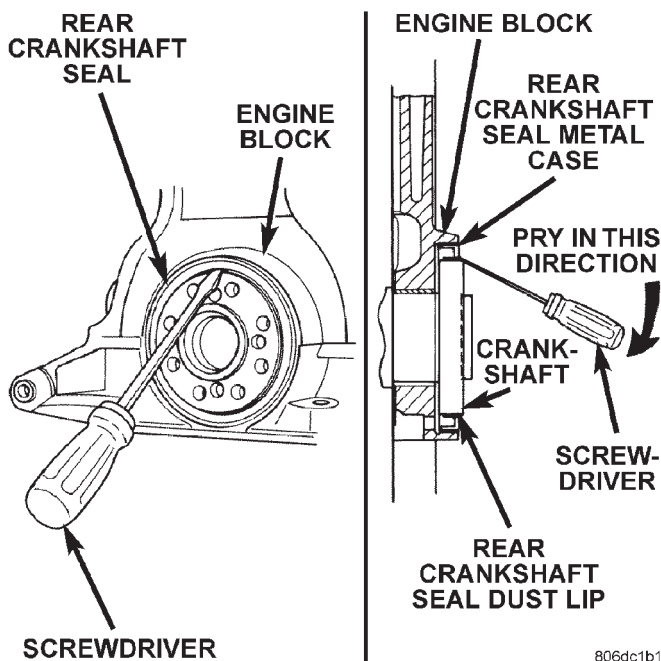

Fig. 70 Rear Crankshaft Oil Seal—Removal
(1) Insert a 3/16 flat bladed screwdriver between the dust lip and the metal case of the crankshaft seal. Angle the screwdriver (Fig. 70) through the dust lip against metal case of the seal. Pry out seal.